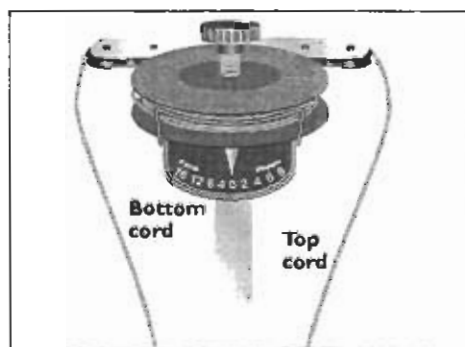

Figure 28
5. Thread the end of the bottom cord through the left pulleys from inside to outside (Figure 28). Be sure the cord does not become tangled under the cord drum.
8. Replace the retaining clip using a 1/8-inch Allen wrench (Figure 28).